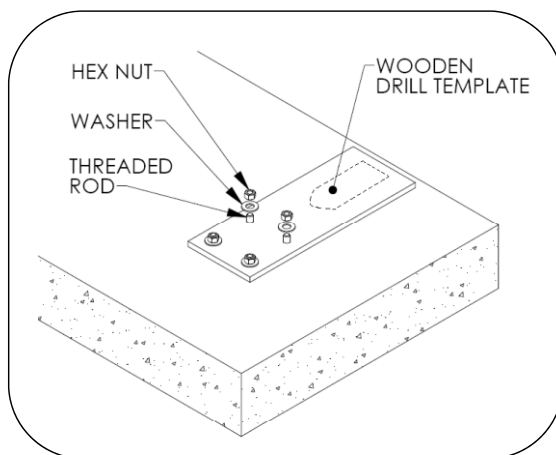

Fig. 5 – Set anchors
7. Set anchor rods using the drill template, see Fig. 5. Allow adhesive to cure.